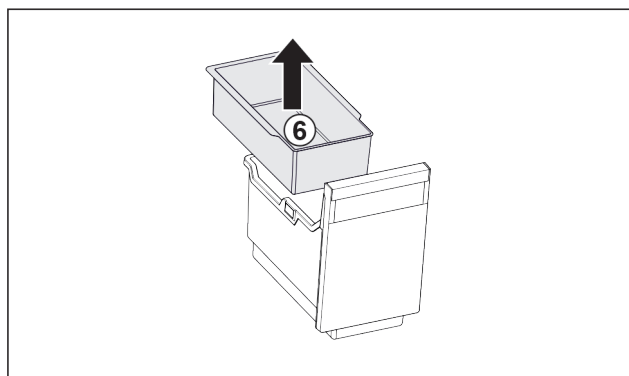

Fig. 81
- Remove the hang-on tray Fig. 81 (6).